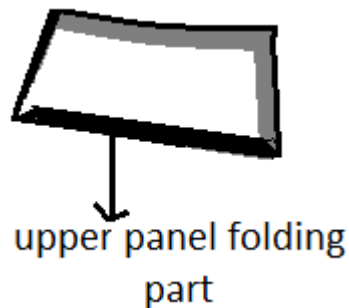

Fig. 5:4 upper panel fold
7. Stitch as shown in (*fig. 5:5 II.*)